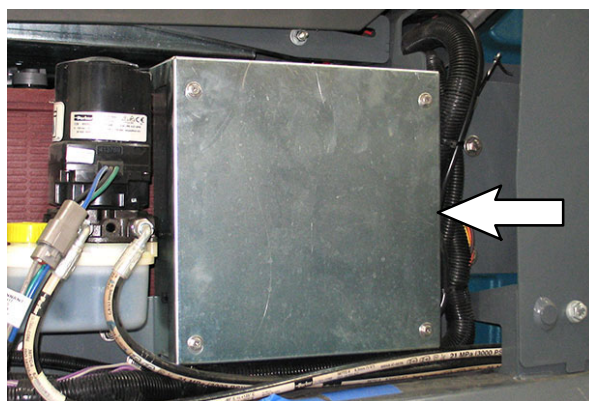
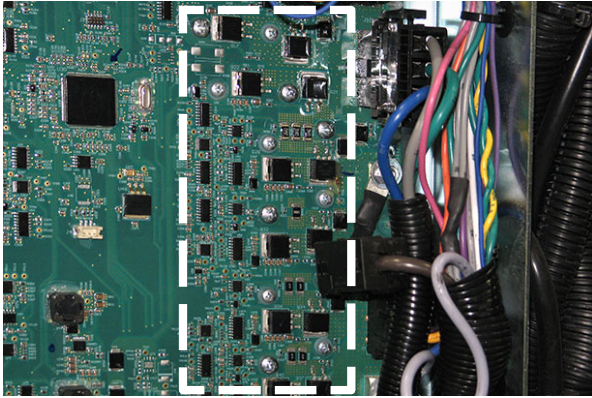
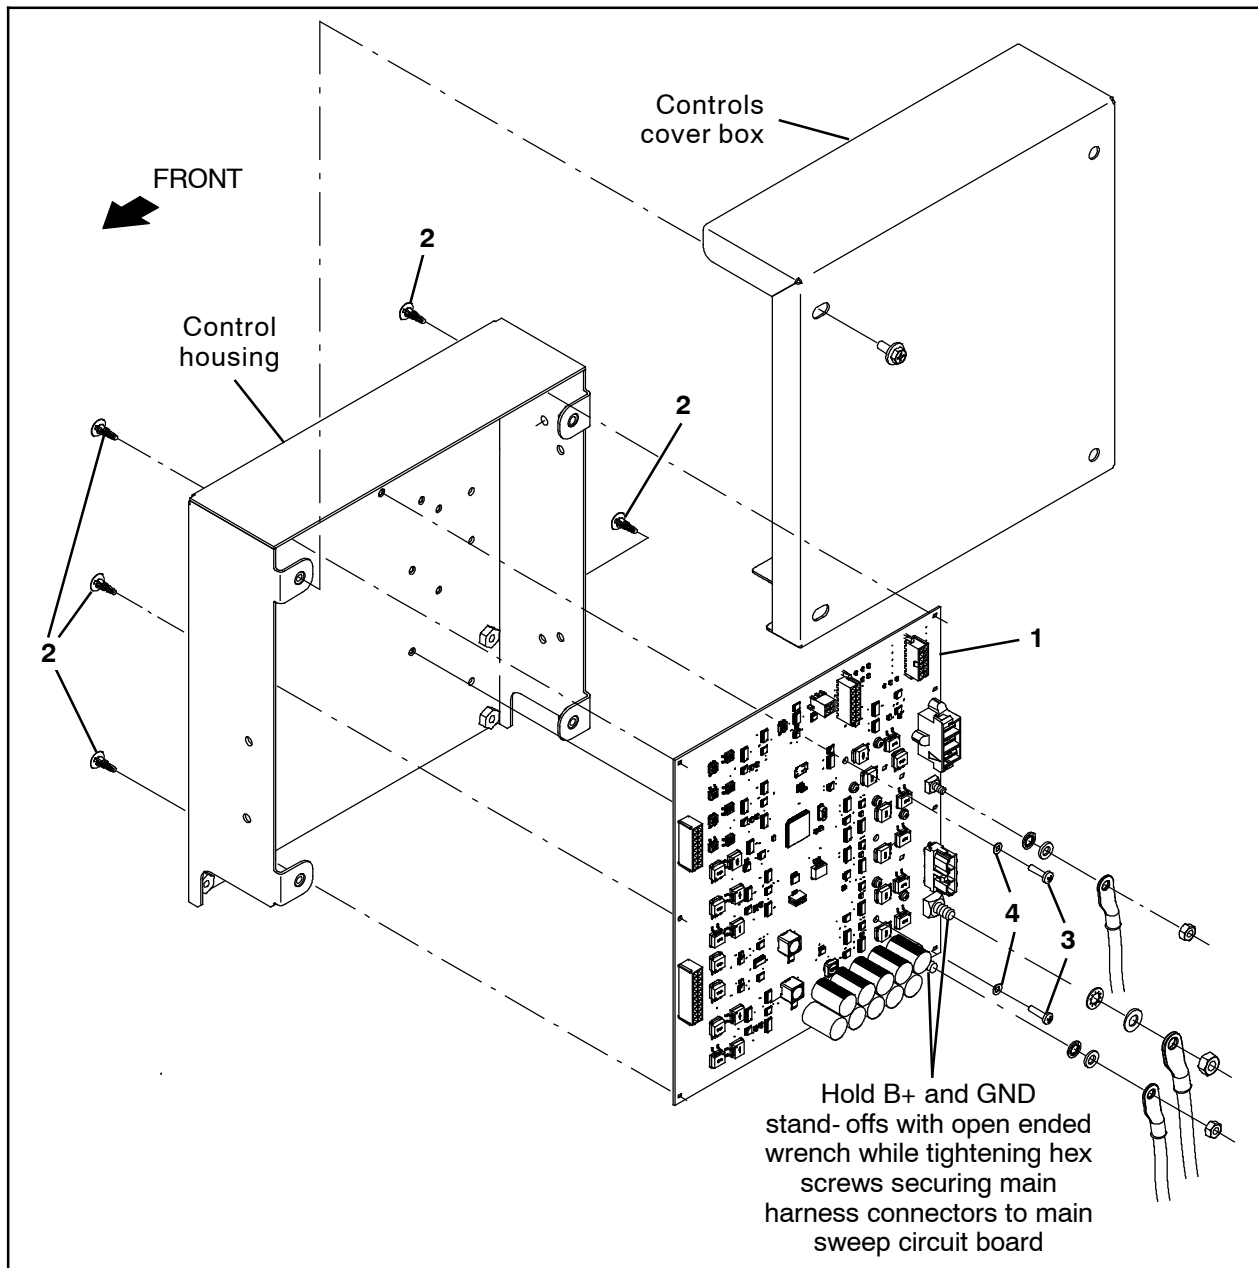

FIG. 1
FIG. 2
FIG. 4
2. Remove the controls cover box from the control housing. Set the controls cover box and hardware aside. (Fig. 1/Fig. 4)
3. Disconnect all main wire harness connectors from the main sweep control board. Set aside all hardware used to secure main wire harness connections to the main sweep control board. (Fig. 4)
4. Remove the six pan screws and nylon washers securing the main sweep board to the control housing. Discard the removed pan screws and nylon washers. (Fig. 2/Fig. 4)
5. Carefully squeeze the plastic standoffs securing the main sweep circuit board to the control housing to release the circuit board from the control housing and remove the main sweep circuit board. Discard the removed main sweep circuit board. (Fig. 4)
6. Remove the stand-offs previously used to hold the main sweep circuit board to the control housing from the control housing. Discard the stand-offs. (Fig. 4)
7. Install new stand-offs (2) where the stand-offs that were removed from the control housing in the previous step were located. (Fig. 4)
8. Place the new main sweep circuit board (1) onto the stand-offs (2) install into the control housing in the previous step. (Fig. 4)
9. Use the six pan screws (3) and six nylon washers (4) to secure the main sweep circuit board (1) into the control housing. (Fig. 4)
10. Reconnect the main wire harness to the main sweep circuit board (1). (Fig. 4)
11. Reinstall the controls cover box onto the control housing. (Fig. 4)